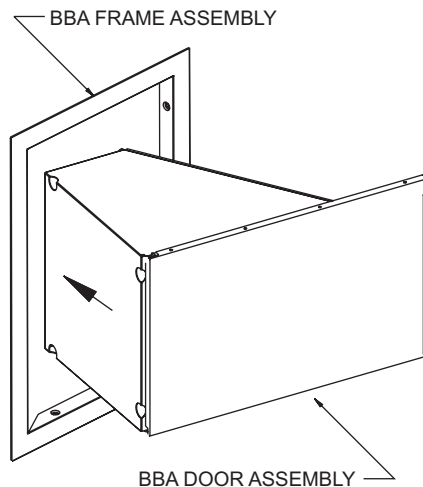

Figure 2
3. While positioned on its side, place the BBA Door Assembly into the BBA Frame opening. See Figure 2.